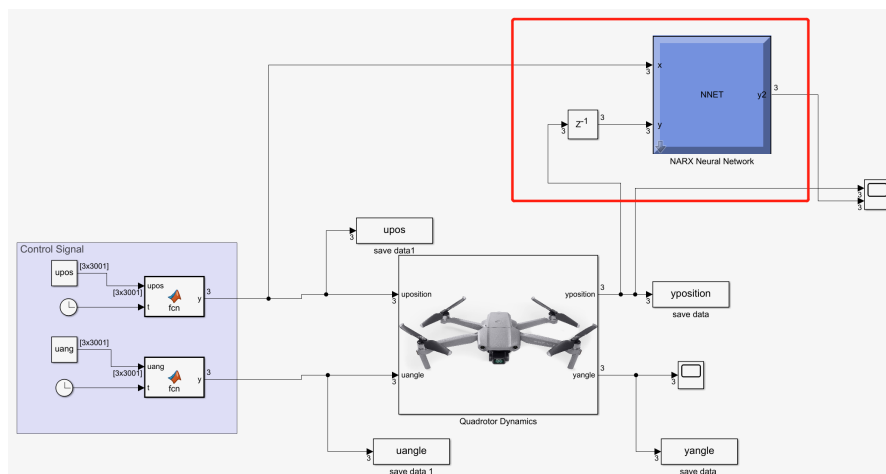

Fig. 8. Example Simulink model of NN validation.
- Now start the validation process (Fig. 8).
- Copy the NN block to the model where you collect data and connect the block as shown below. For delayed signal, add a delay block between the output of the quadrotor model (see Fig. 8) and the delay input (y) of the NN model.